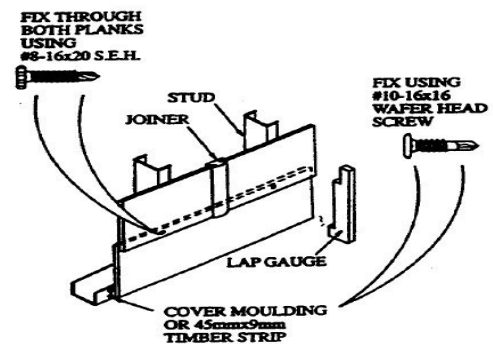

Figure 1: Fibre Cement Fixing Details
3. Fix a joiner to the free end of the plank and continue to fix the bottom row of planks fitting joiners as required. See Figure 1.